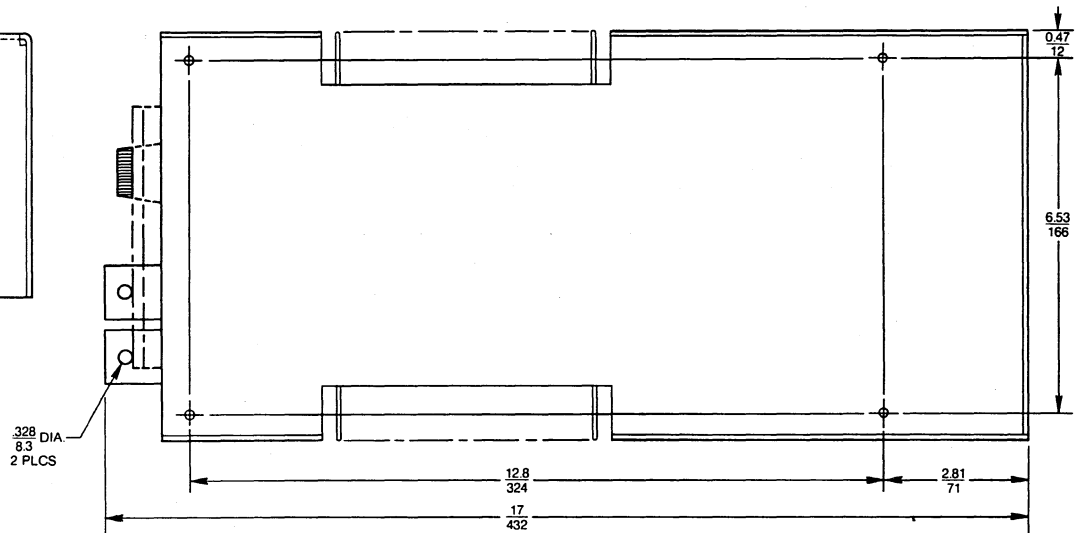

Figure 2-2, Outline Drawing,
2) Fabricate knockout panels as shown in Figure 2-2. Figure 2-1 is an overall outline drawing of the SSD modules. (Consult factory for specific mounting data.)
End mounting - Use knockout per Figure 2-2. This knockout clears the terminal block and fuses.
Side mounting - No knockout is needed. Use the four mounting holes shown in Figure 2-2.
Bottom mounting - Use knockout per Figure 2-2.